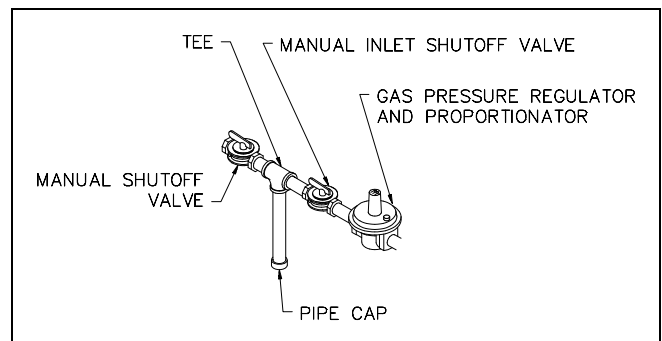

Figure 7
*To trap any dirt or foreign material in the gas supply line, a dirt leg (sometimes called a sediment trap or drip leg) must be incorporated in the piping (see figure 7). The dirt leg must be readily accessible and not subject to freezing conditions. Install in accordance with recommendations of servicing gas suppliers. Refer to the national fuel gas code.*